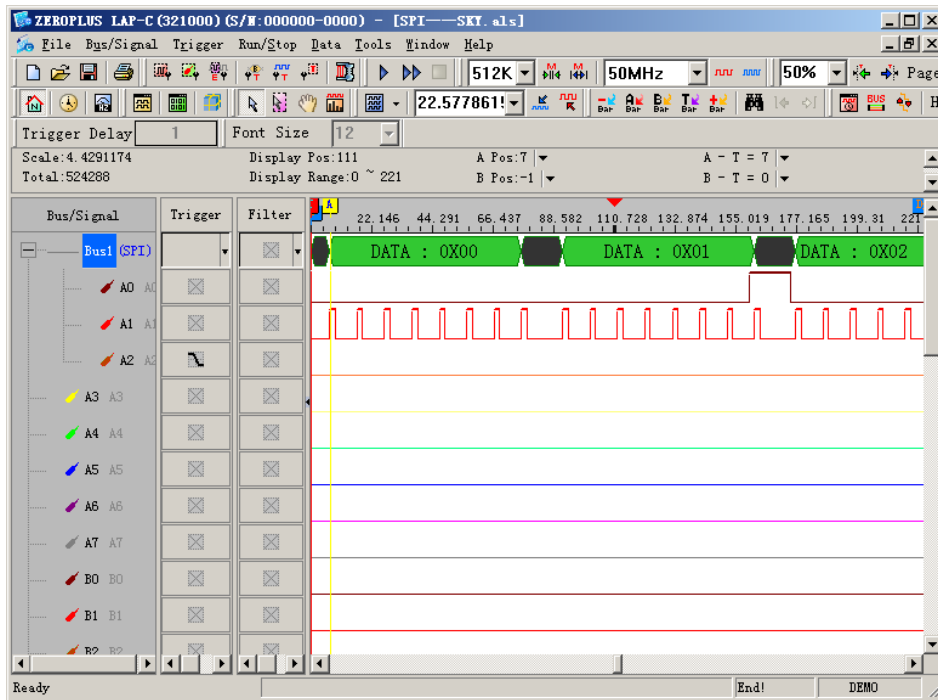

Fig 4-87 – SPI Signal
- (5) Click on the “Don't care data bit” function. The system will restart and count from the beginning of the data bits when the condition of the idling time setting is qualified.
- (6) Click off the “Don't care data bit” function, the system will decode the data stream until the bits of the data are received completely, when the condition of the idling time setting is qualified.
- (7) Press “OK” to confirm the setup of SPI Custom Setting and return to the dialog box of the SPI Setting. (**Tip:** Press “Default” to reset the current setup)
Step6. Click **Run** to acquire the SPI signal from the tested SPI circuit. Refer to the Fig 4-87.